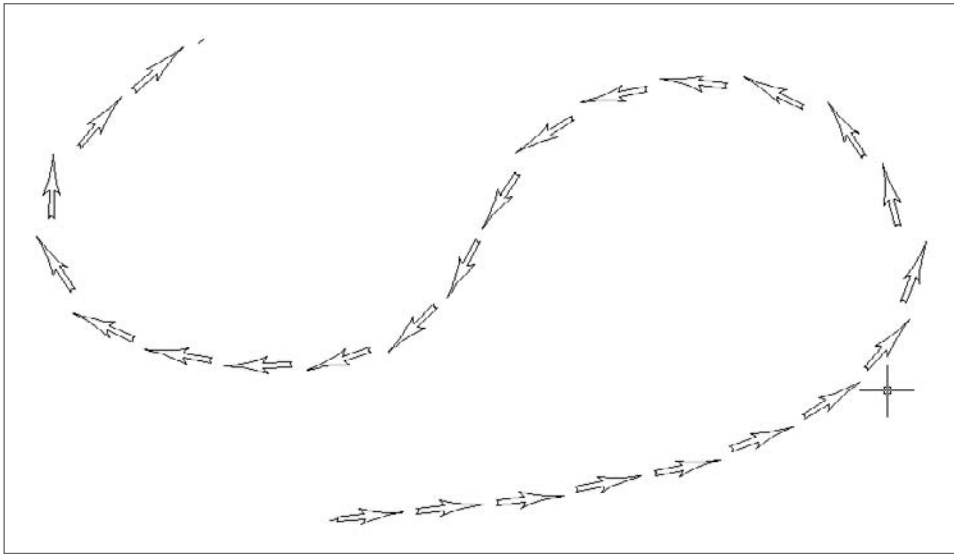

Figure 3.32
9. Select it like any other linetype, and assign it to a layer. The results of using a spline on a layer with the new arrow linetype are shown in Figure 3.32.